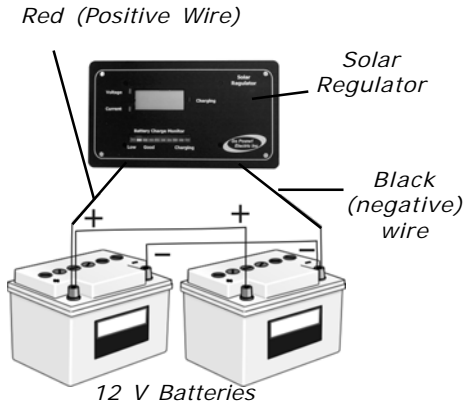

Figure 6
1. Multiple 12 volt battery connection. (See Figure 6)